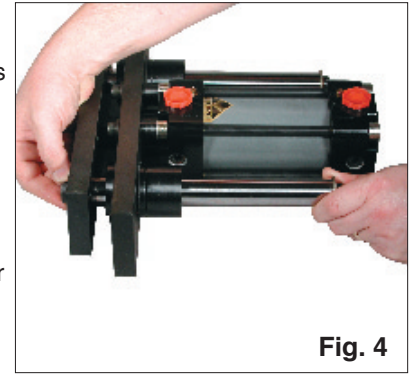

Fig. 4
6. Slide the left guide rod up until it rests against the upper plate. Again, thread the screw in just enough so that it holds the rod in place (Fig. 4).